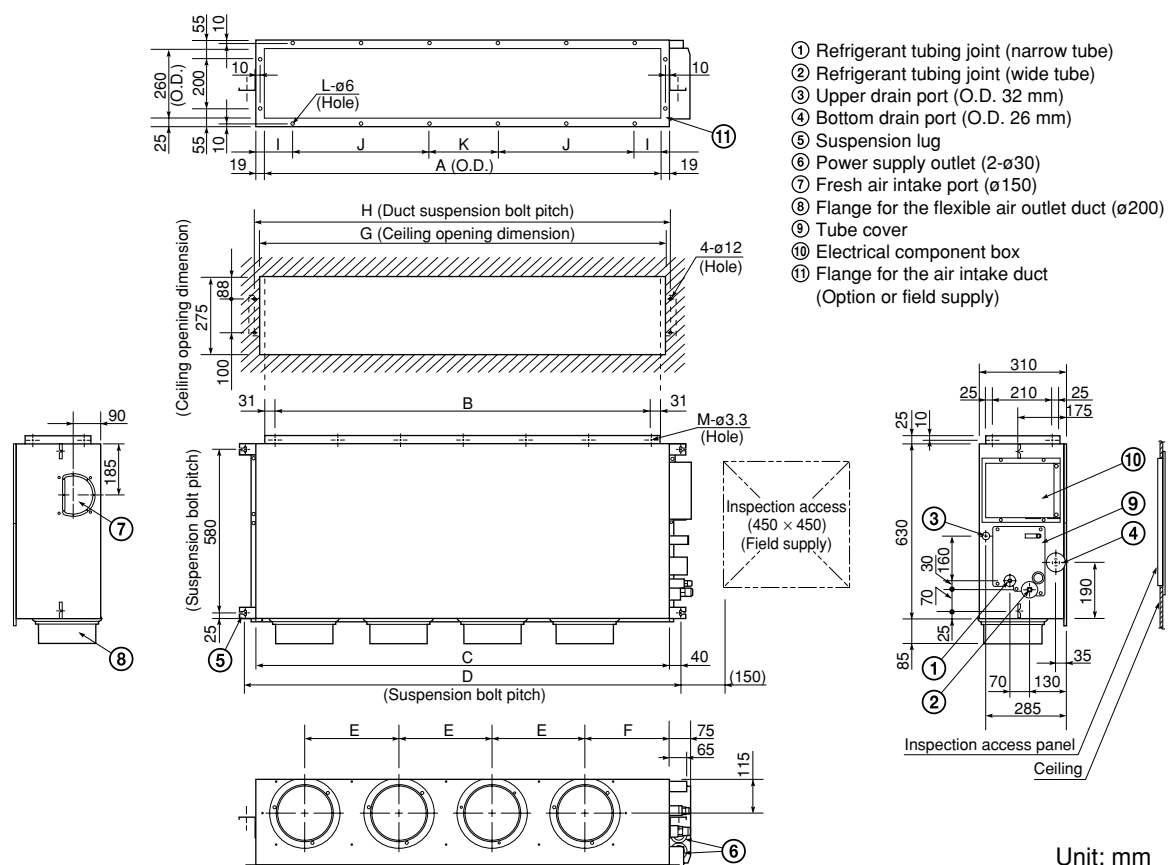

Fig. 3-57
- Fig. 3-57 and Table 3-4 show the detailed dimensions of the indoor unit.